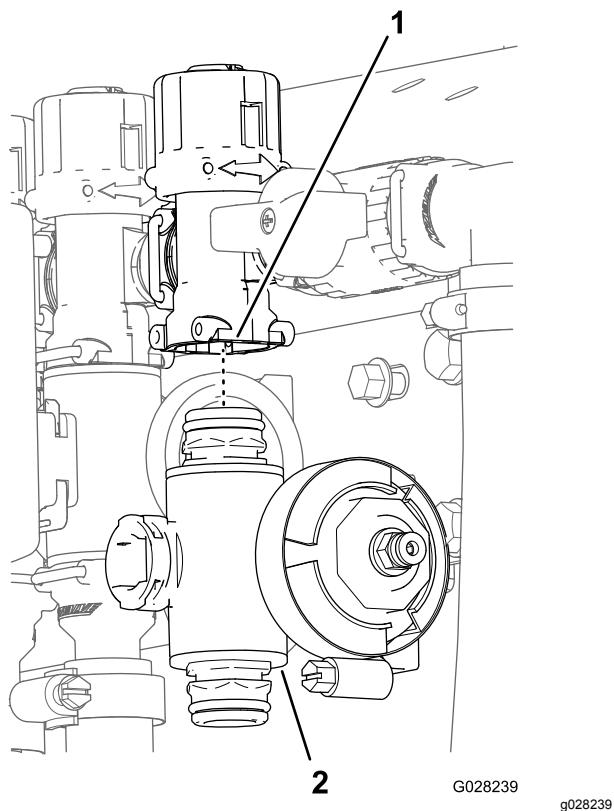

**Figure 105**
2. Remove the retainers that secure the outlet fitting to the section valve manifold and the valve manifold to the bypass fitting (Figure 105).